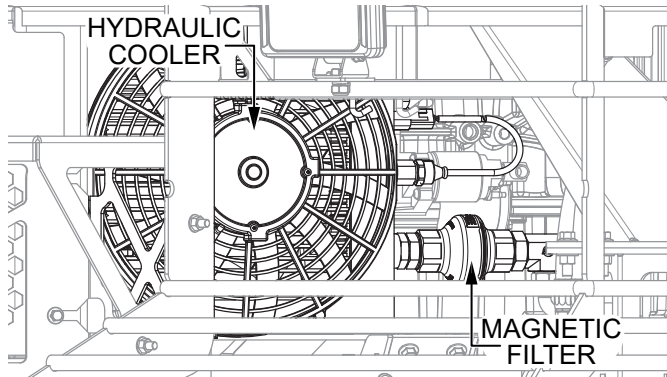

Figure 71. Magnetic Filter
A serviceable magnetic filter (Figure 71) is connected directly to the inlet of the steering system hydraulic cooler. Be sure to clean the magnetic filter when servicing the hydraulic system.
1. Disconnect and remove the magnetic filter from the hydraulic cooler (Figure 71).